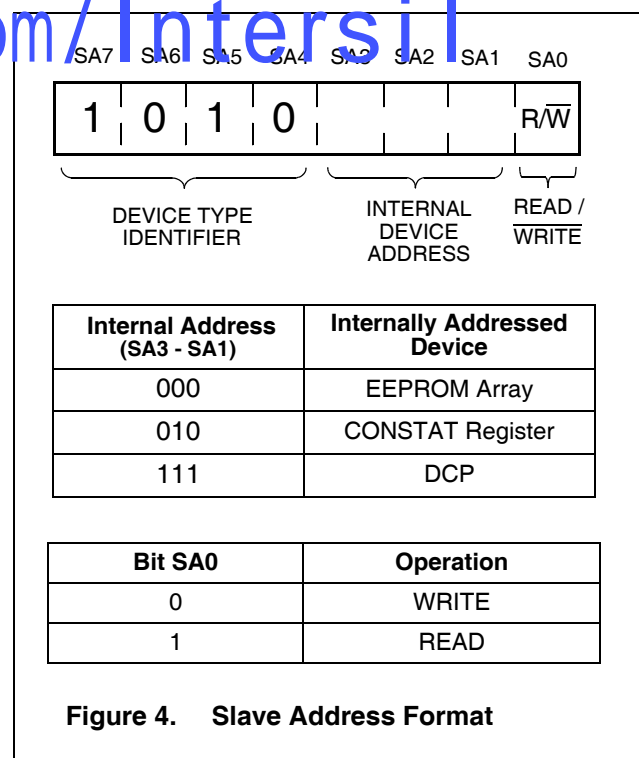

Figure 4. Slave Address Format
Following a START condition, the master must output a Slave Address Byte (Refer to Figure 4.). This byte consists of three parts:
- The Least Significant Bit of the Slave Address (SA0) Byte is the R/W bit. This bit defines the operation to be performed on the device being addressed (as defined in the bits SA3 - SA1). When the R/W bit is “1”, then a READ operation is selected. A “0” selects a WRITE operation (Refer to Figure 4.)